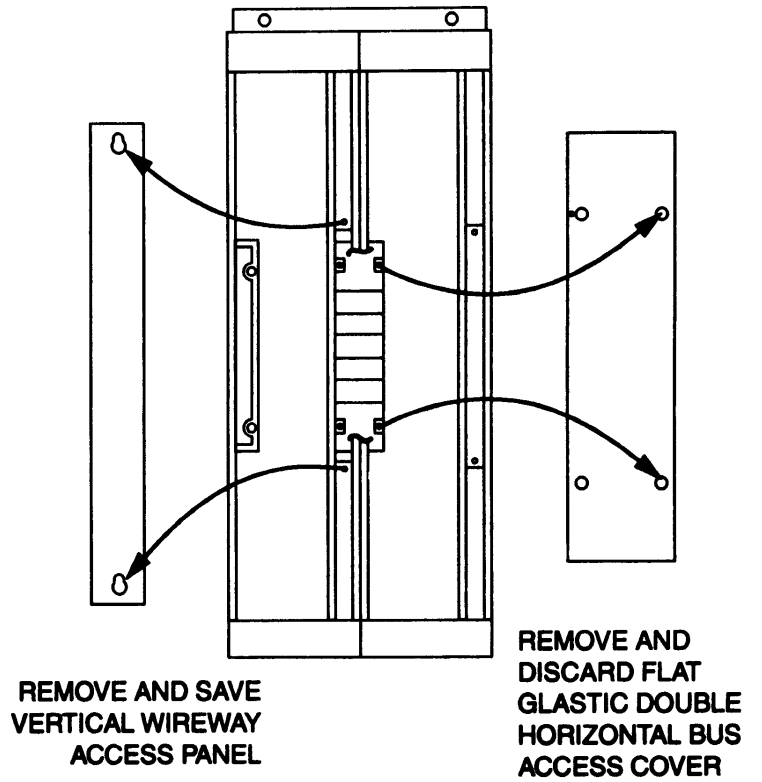
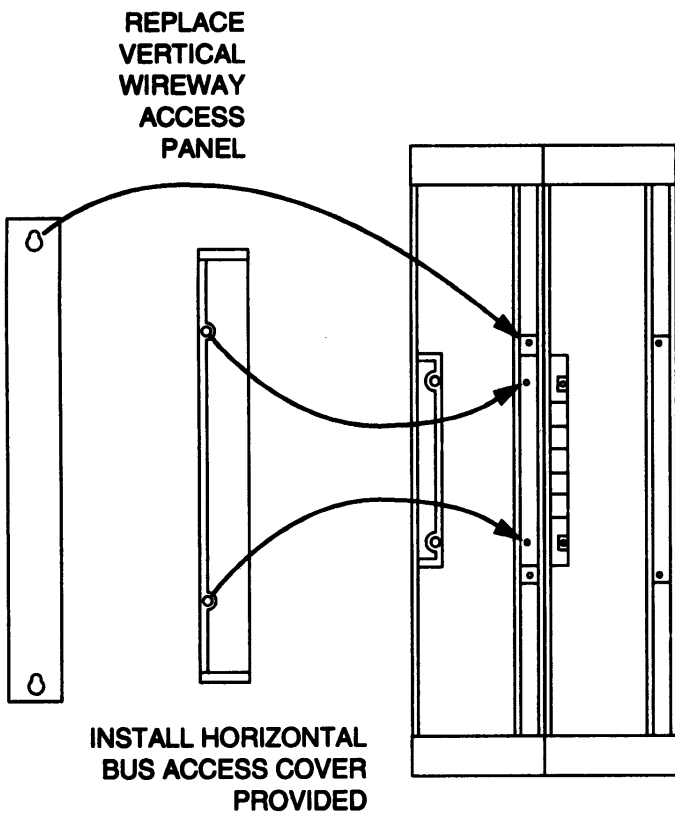

FIGURE 4b
FIGURE 4c
3. For circuit breaker unit installations in sections other than the left most section of shipping blocks, refer to Figure 3c. Remove and discard either a flat horizontal two section bus access cover, refer to Figure 4b; or the horizontal bus access cover from the left side of the desired section, refer to Figures 3c and 4a. If a flat horizontal two section cover has been removed, cover the horizontal bus access opening in the adjacent left section with a full horizontal bus access cover, refer to Figure 4c. Proceed to Step 4.1.